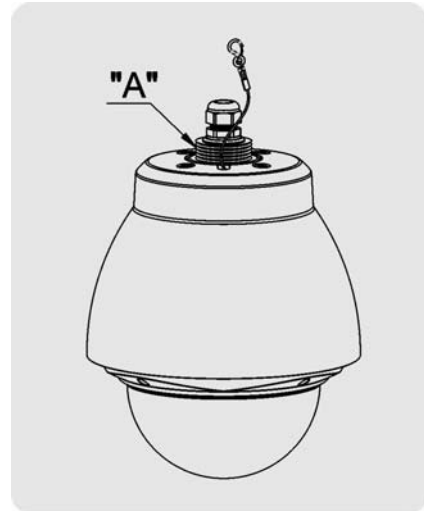

Figure 1
2. Wind Teflon Tape around the thread of "A" (Figure 1.) about 20 times for seal.